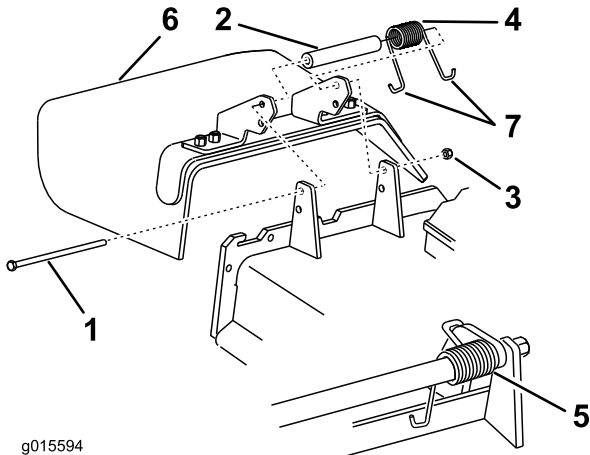

Figure 62
1. Remove the locknut, bolt, spring and spacer holding the deflector to the pivot brackets (Figure 62).
Note: Make sure one J end of spring is installed behind deck edge before installing the bolt as shown in Figure 62.
6. Place one J hook end of spring around grass deflector (Figure 62).